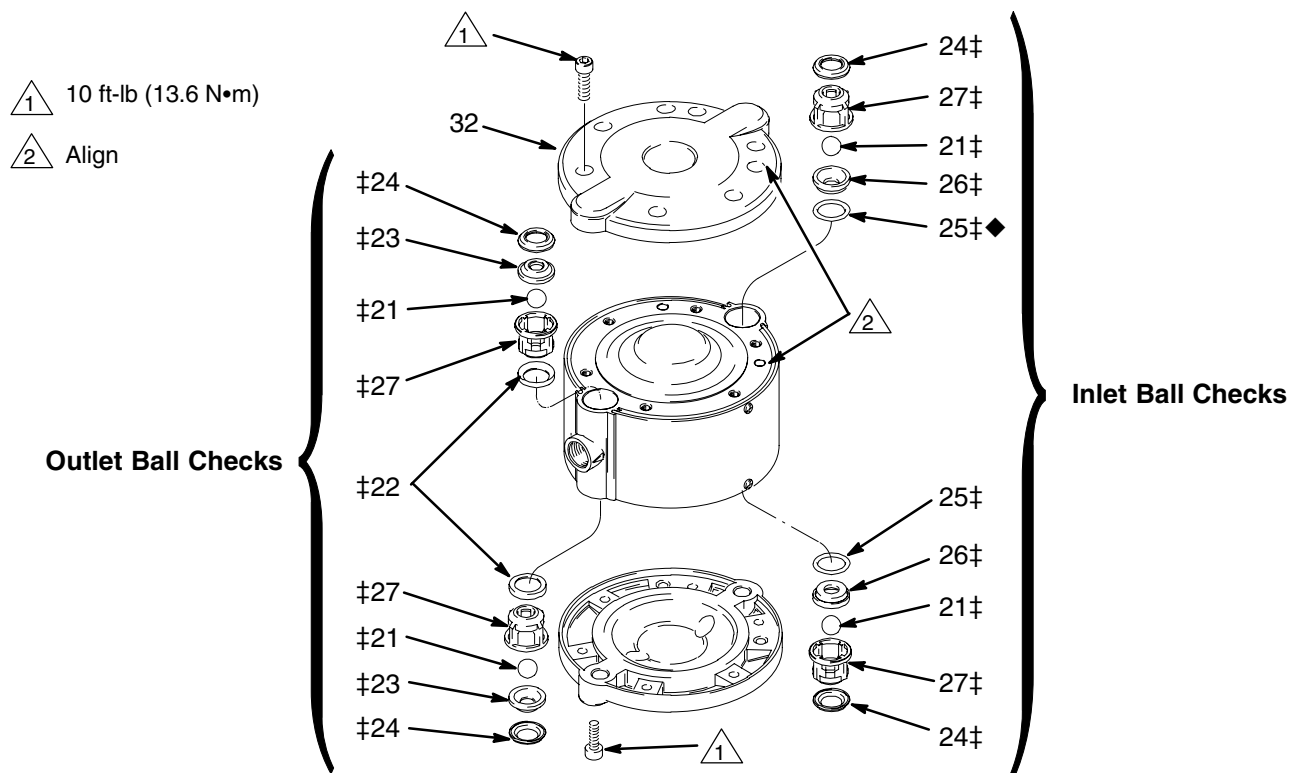

Fig. 4
2. Remove the inlet and outlet ball checks. Note that the orientation of the inlet check parts is different from the outlet check parts. See Fig. 4.
1. Reinstall the inlet and outlet ball checks on one side of the pump. The inlet and outlet checks are assembled differently. Install the parts exactly as shown in Fig. 4.
2. Install one cover (32) loosely, to prevent the ball checks from falling out. See page 14.